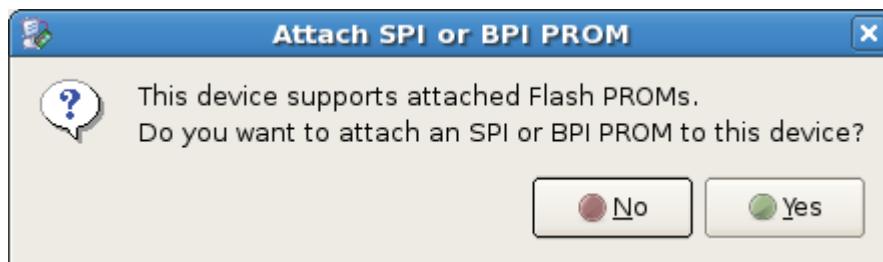

Figure 14: Attach SPI or BPI PROM Dialog Box
7. For SPI or BPI PROM options, click **No** (Figure 14).